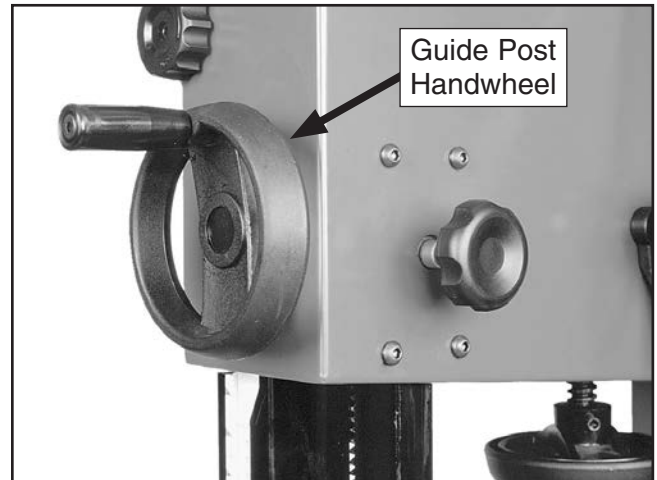

Figure 20. Guide post handwheel installed.
1. Secure the guide post handwheel onto the handwheel shaft flat with the included set screw (see **Figure 20**).